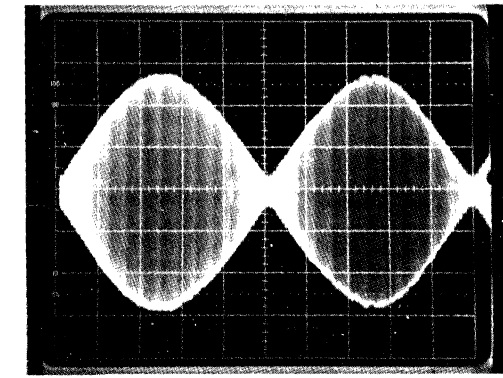

FIGURE 11. HEAD RADIAL ALIGNMENT
- f. The two lobes must be within 70% amplitude of each other. If the lobes do not fall within the specification, continue on with the procedure. Reference figure 11.